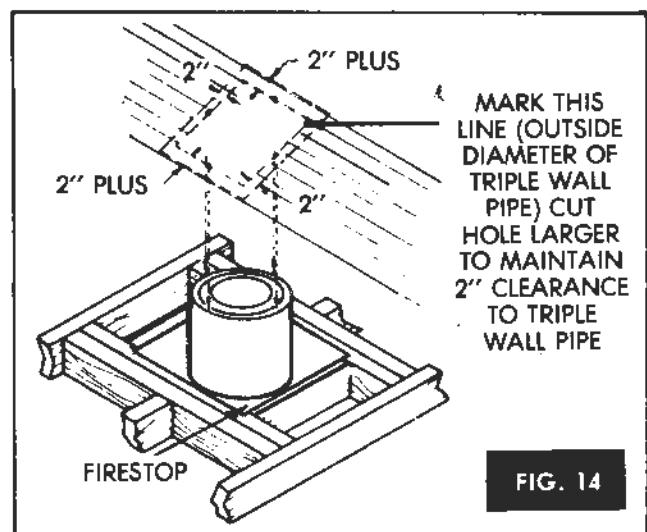

FIG. 14
3. Cut out opening. Save shingles for covering flashing. A rofter may have to be cut to make opening. Place headers between remaining rafters and nail in place. Place additional rofter section to maintain 2" clearance. (See Fig. 14).